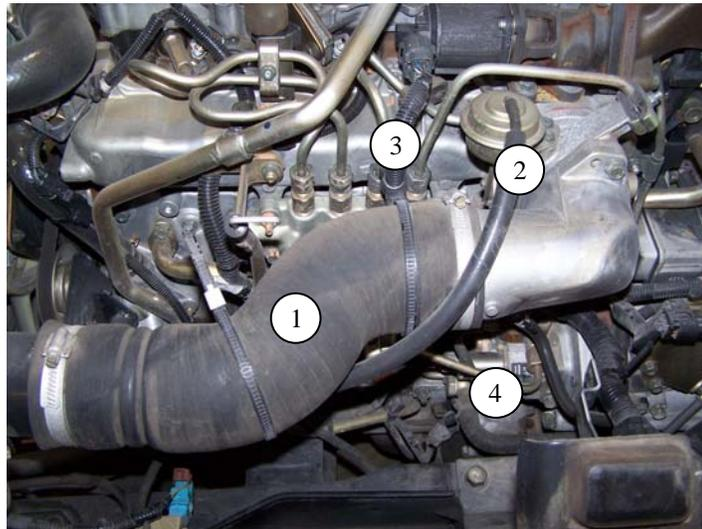

Figure 1
2. Remove the intake duct for access. See figure 1.
5. Disconnect the Throttle Valve vacuum hose. See figure 1.
14. Install intake duct. Be sure to secure EGR valve harness and Throttle Valve vacuum hose into retaining clips. See figure 1.